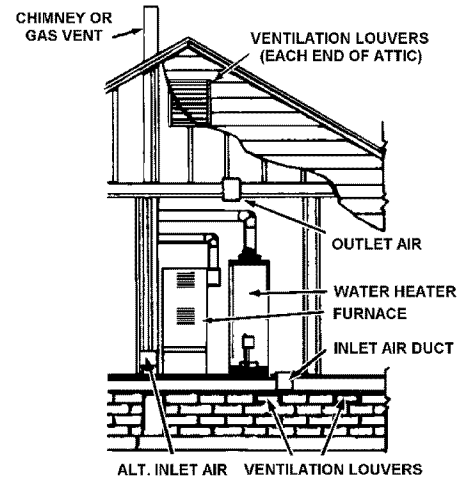

FIGURE 11.
- When directly communicating with the outdoors, each opening shall have a minimum free area of 1 square inch per 4,000 BTU per hour (5.5 cm²/kW) of total input rating of all equipment in the enclosure. See Figure 11.